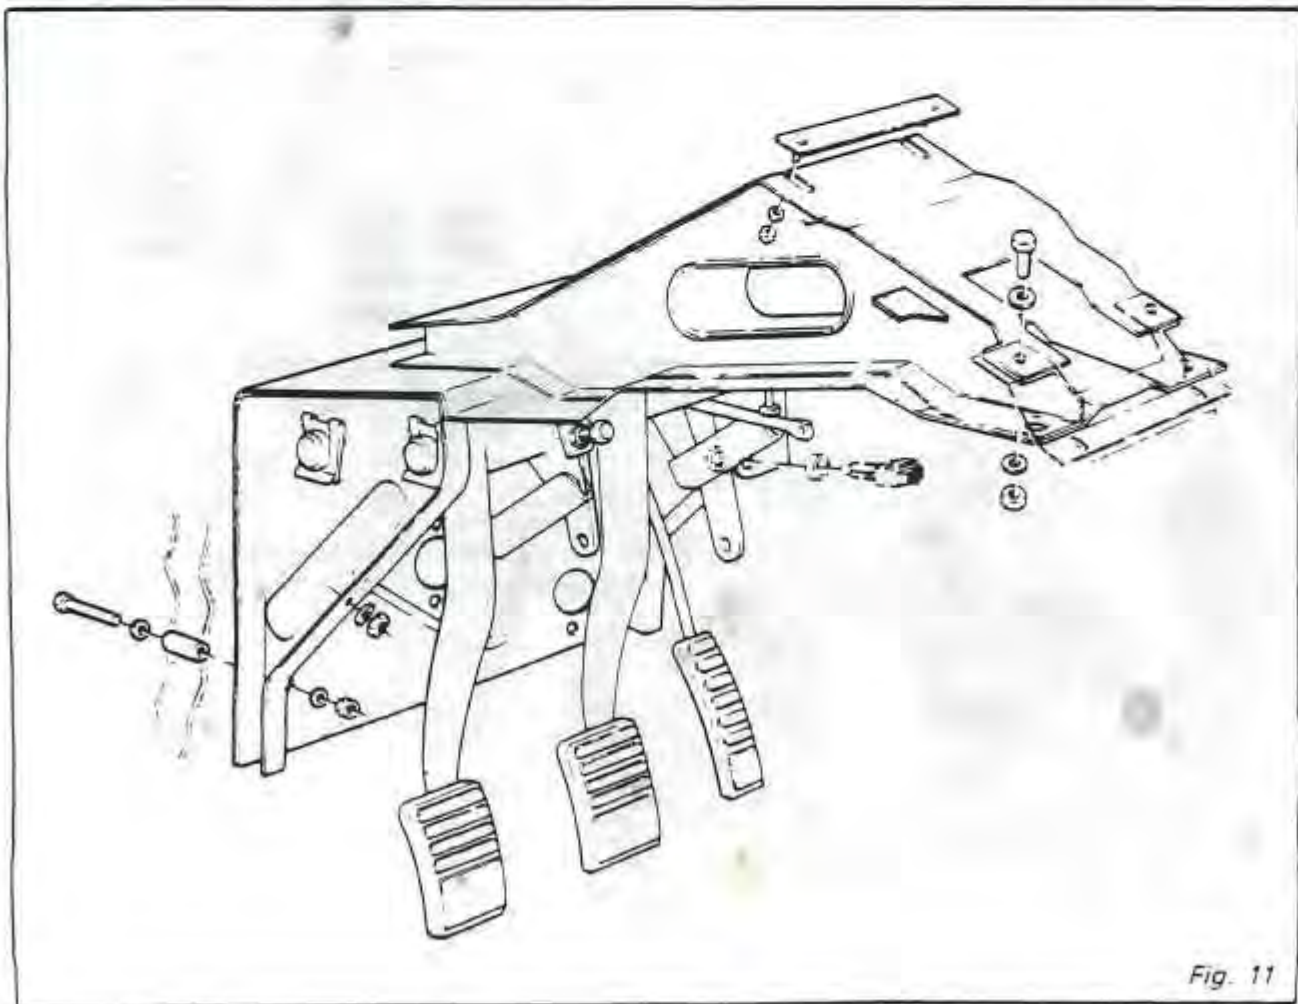
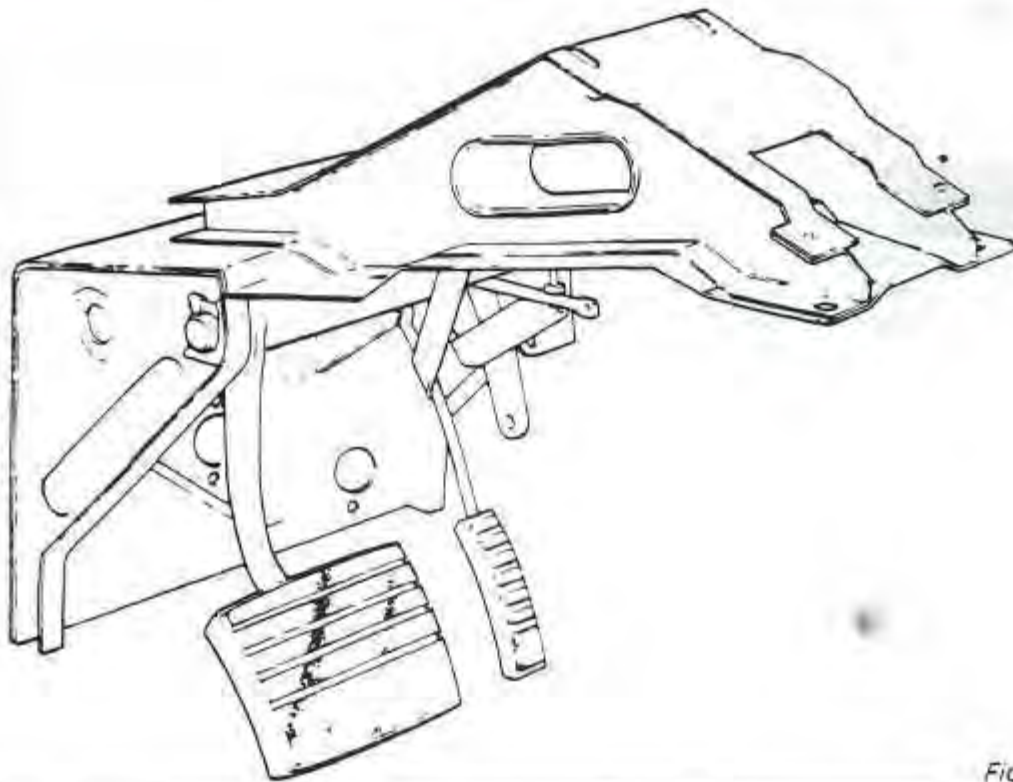

Fig. 11
Fig. 12
NOTE: Manual Transmission – (Fig. 11) – this procedure may be performed with the pedal box installed; Automatic Transmission – (Fig. 12) – the pedal must first be removed from the car.
- Automatic transmission only. Install the pedal box assembly. (Fig. 12)
- The relay lever pivot bushes may be replaced by knocking out the old bushes and pressing in the new. (Fig. 11)
- Install the pedal box assembly. (Fig. 11)
- Remove the spring clip retaining the pedal shaft from the right side of the pedal box. (Fig. 12)